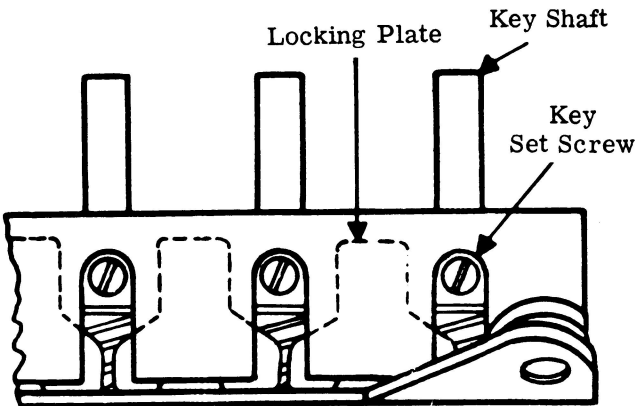

Figure 3. Key Assembly Interior Showing Parts Involved in Pick-Up-To-Signal Conversion
- (4) Remove the set screw (Fig. 3) from the key to be converted.
- (5) Turn the adapter on its side and allow the locking plate (Fig. 3) to slide out.
- (6) Rotate the key shaft (Fig. 3) one-half turn (180°) so that the threaded opening in the key shaft is aligned with the slot.
- (7) Replace the set screw in the key shaft.
- (8) Depress the key shaft. Depressing the key shaft should not cause an operated key to restore and should not lock itself.
- (9) Replace the push-button caps and retaining bracket.
- (10) Refer to Table 1 and change the spade-tipped leads as required for the modification being made.
- (11) Replace and screw down the housing cover.